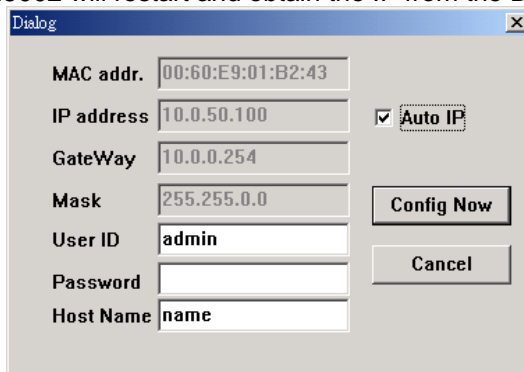

Fig. 8. Monitor.exe Auto IP Dialog Window
- ➔ Check "**Auto IP**" (Fig. 8)